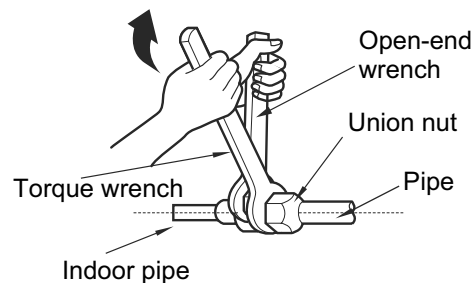

Fig. 6
- (2) Pretighten the union nut by hand.
- (3) Adjust the torque force by referring to the following sheet. Place the open-end wrench on the pipe joint and the torque wrench on the union nut. Tighten the union nut with the torque wrench. (As shown in Fig. 6)